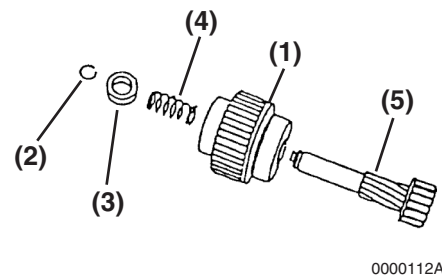

Figure 11-11
- Disassemble the pinion stop (**Figure 11-11, (3)**), return spring (**Figure 11-11, (4)**), pinion clutch assembly (**Figure 11-11, (1)**), and pinion shaft (**Figure 11-11, (5)**).